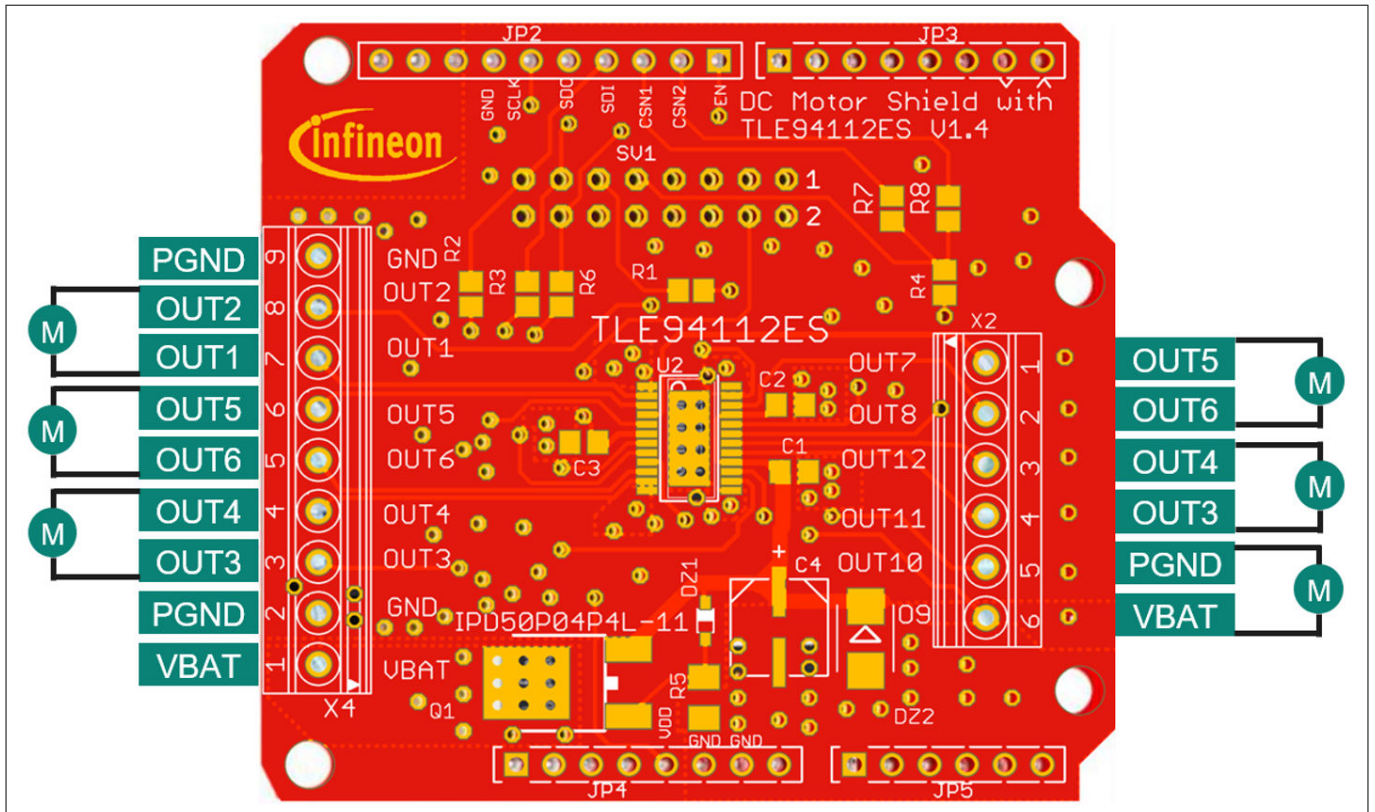

Figure 14 Motor Control Shield connectors
- Connect the brushed DC motors to the corresponding output connectors (OUT_x, x=1... 12). Refer to Figure 14